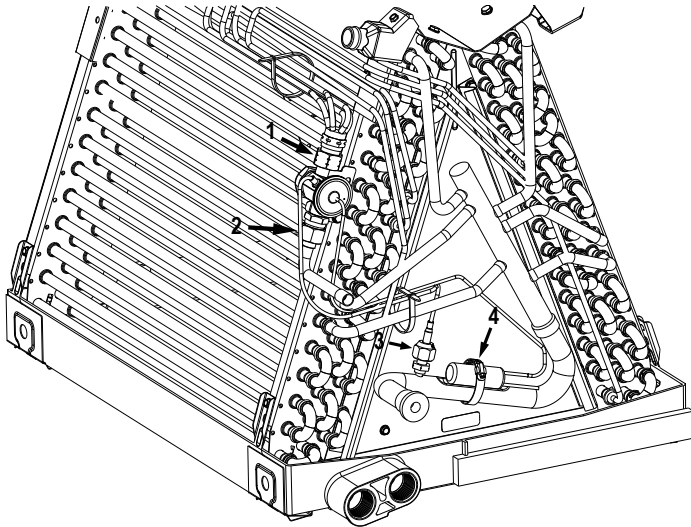

Fig. 16 – Mechanical TXV Removal
**NOTE:** For Item #1 (Fig. 16): Use an adjustable wrench with a backup adjustable wrench to loosen the brass nut (TXV outlet). Then use both wrenches to loosen Item #2 (TXV inlet).